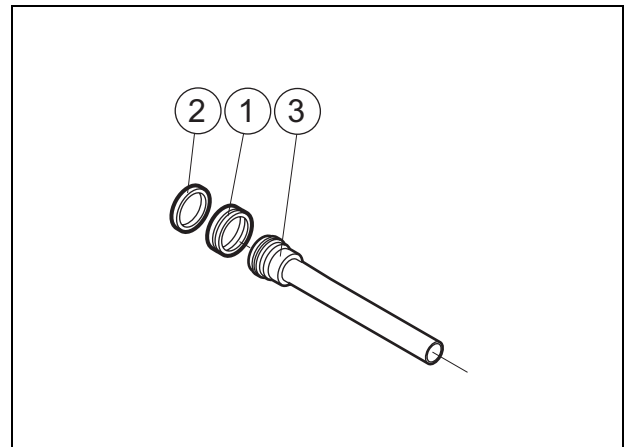
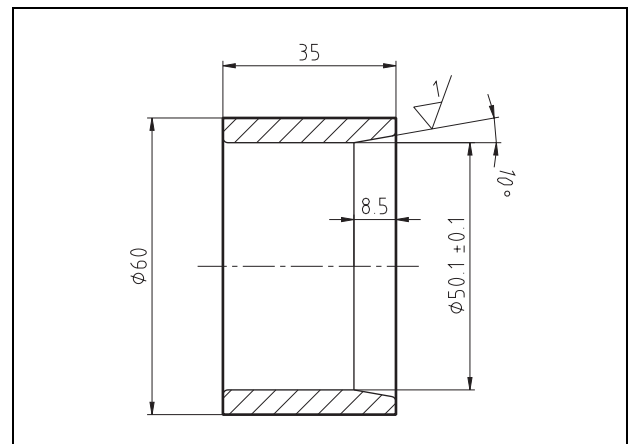

Fig. 51 Piston seals
Fig. 52 Assembly tool
1. The piston seal (1) is made of two parts. Separate the yellow and brown seals.
2. Apply oil to the piston (3) and the piston seal (1).
3. Assemble the piston seal. *See Fig. 51.*
- 1 Assemble the “yellow ring“ of the piston seal (1).
- 2 Assemble the “brown ring“ of the piston seal (1). Avoid stretching the seal too much.
- 3 Assemble the guide ring (2).
- 4 Press on the assembly tool (P/N 0703745) to compress the brown seal ring. Let it hold a couple of minutes. The assembly tool can be ordered from Hultdins on P/N 0703745. *See Fig. 52.*